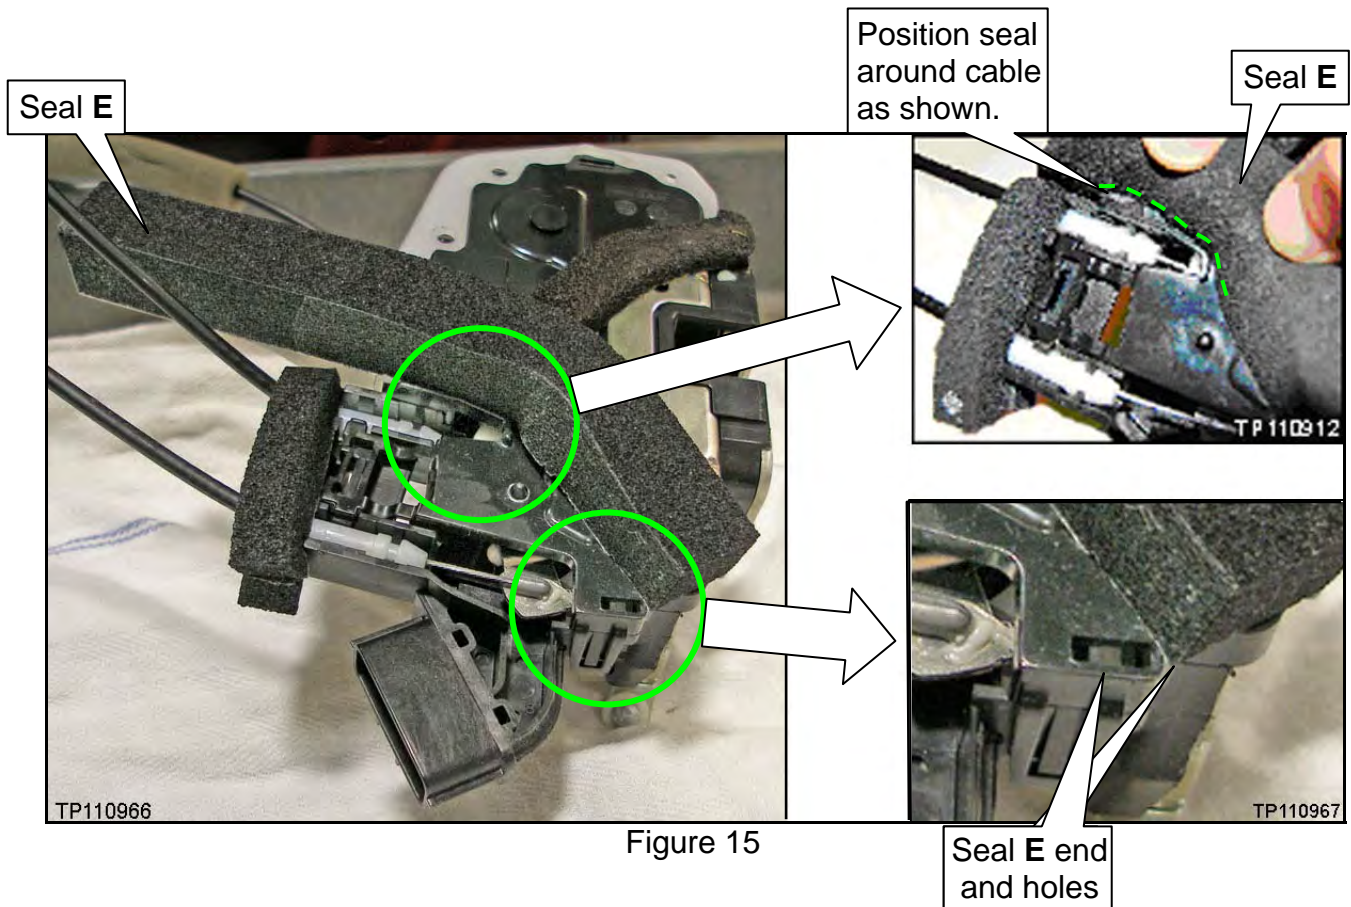

Figure 15
**NOTE:** Before beginning, it is recommend that you read all of seal **E**'s installation steps (1a through 1d) and examine Figure 15.